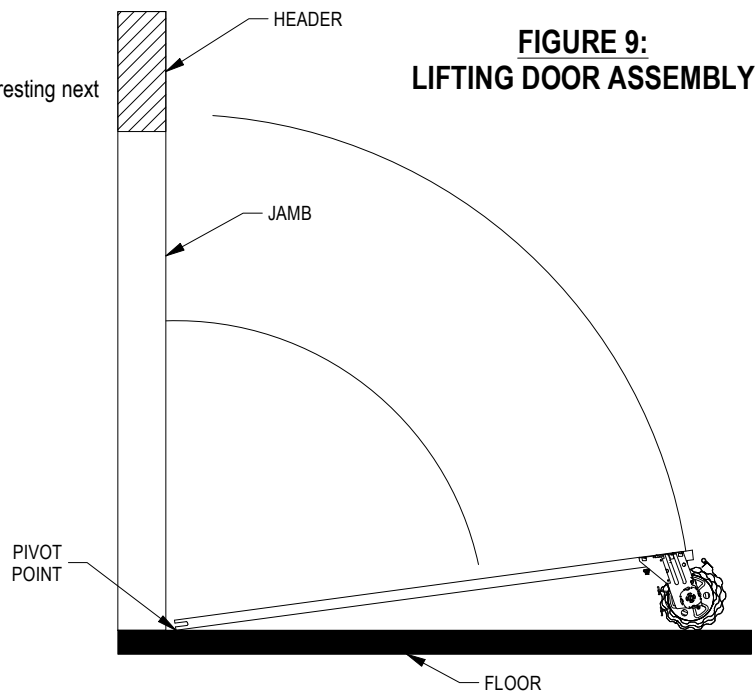

**FIGURE 8:
- Bring top end of guide in alignment with bracket and insert tabs on bracket into tab slots in guide (**Figure 8**).